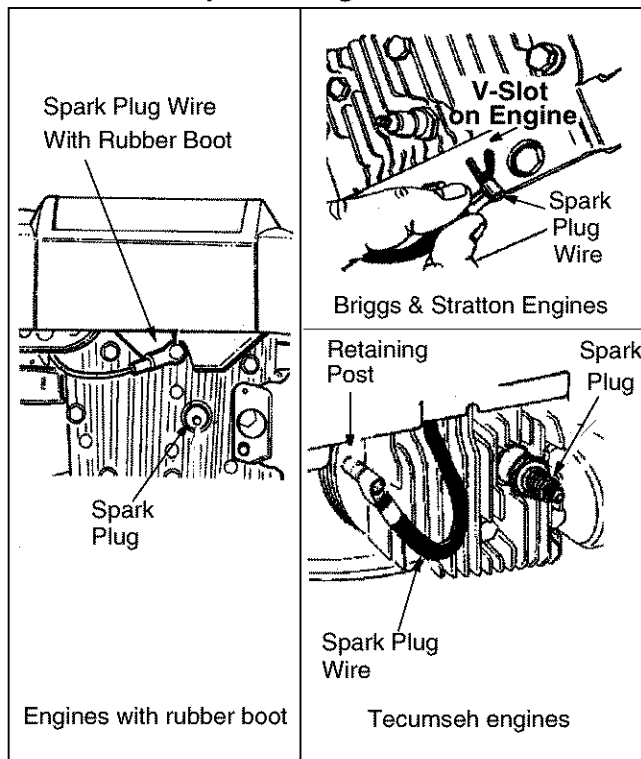

Figure 1
- Before setting up your lawn mower, disconnect the spark plug wire from the spark plug, and ground it against the engine. See Figure 1 .
- In the case of lawn mowers where engine is equipped with a rubber boot, attach rubber boot to a bolt on the engine to ground. See Figure 1.